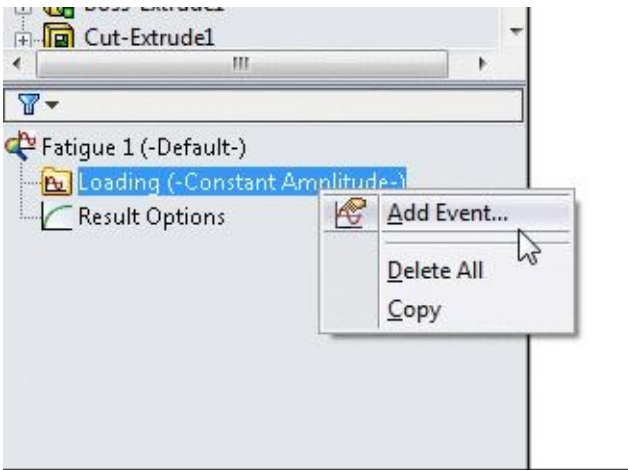
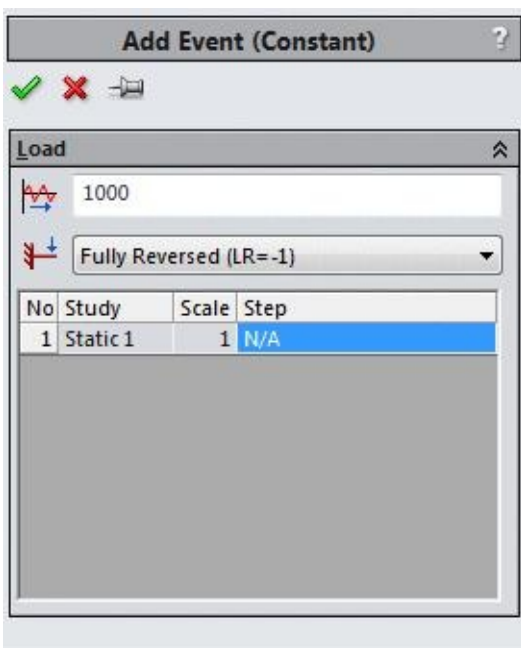

Figure-12. Add Event option
Figure-13. Add Event PropertyManager
- Right-click on **Loading (-Constant Amplitude-)** in the **Analysis Manager** and select the **Add Event** option; refer to Figure-12. The **Add Event (Constant) PropertyManager** will be displayed; refer to Figure-13.